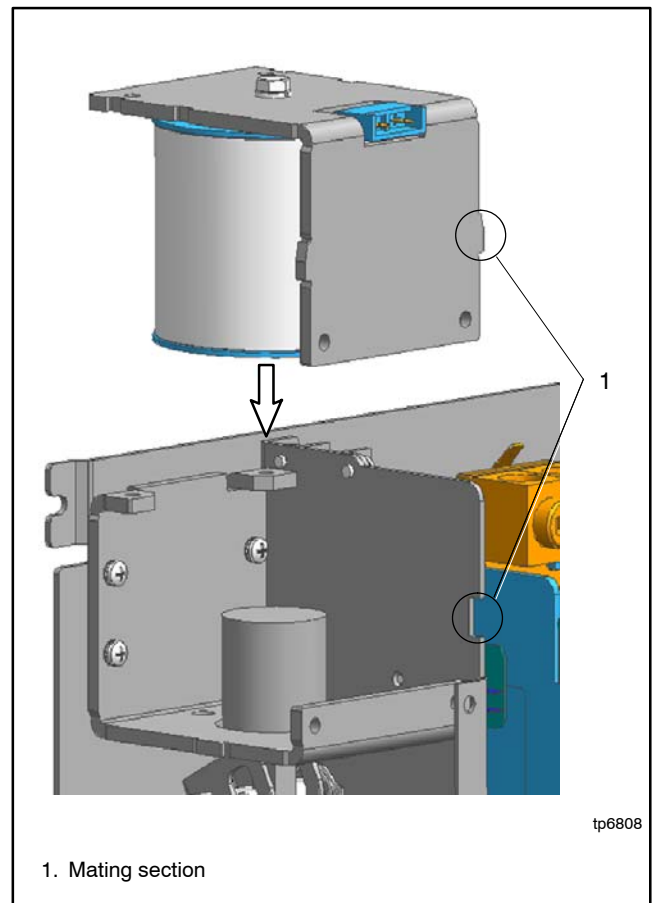

Figure 7-24 Install Coil Assembly
3. Place the coil assembly made in step 2 into the body. Be sure that the coil assembly fits perfectly into the body at the mating section. See Figure 7-24.